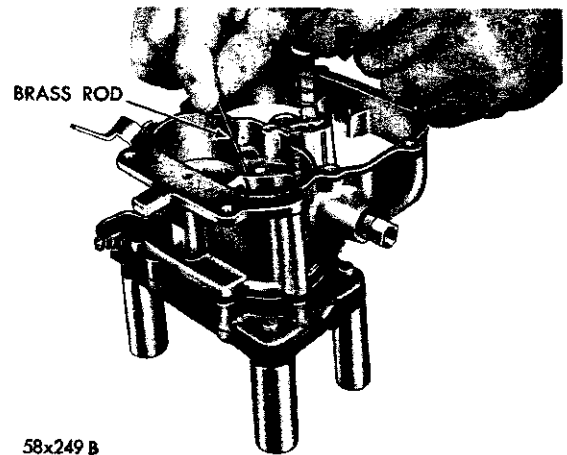

Fig. 28—Testing the Accelerator Pump Intake and Discharge Check Balls
(2) Install the accelerator pump discharge check ball in the discharge passage and check the accelerator pump system; fuel inlet and discharge check balls as follows:
(3) Pour clean gasoline into the carburetor bowl, approximately $\frac{1}{2}$ inch deep. Remove the pump plunger from the jar of gasoline, flex the leather several times, then slide down into the pump cylinder. Raise the plunger and press lightly on the plunger shaft to expel all air from the pump passage.
(4) Using a small clean brass rod, hold the discharge check ball down firmly on its seat. Again raise the plunger and press downward. No fuel should be emitted from either the intake or discharge passage, as shown in Figure 28.